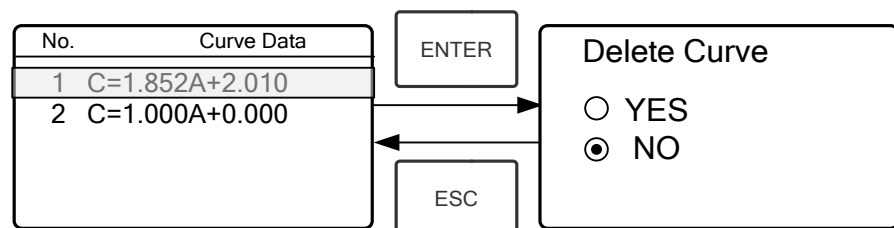

Fig. 4-18
- ★ Move the cursor on the curve equation that you don't need again and press , then system will ask you to confirm again. (Fig. 4-18)